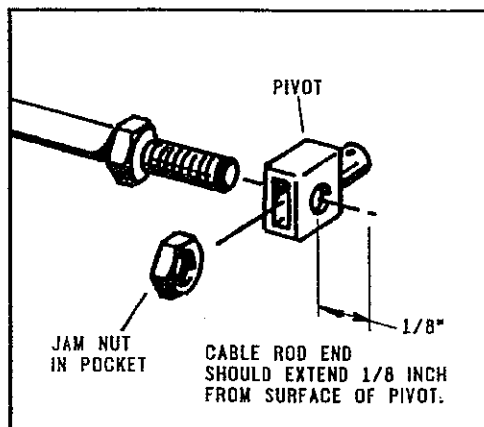

FIGURE 3
1. Attach the Pivot to the end of the Shift cable, as shown in Figure 3.